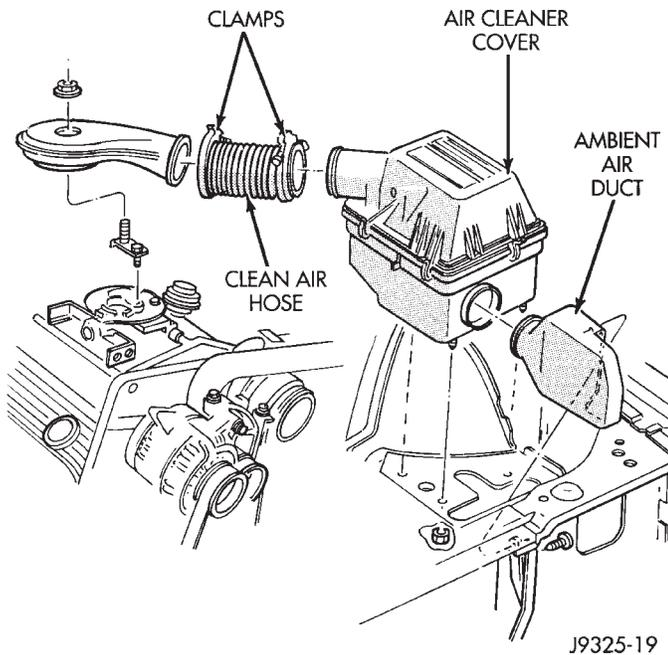
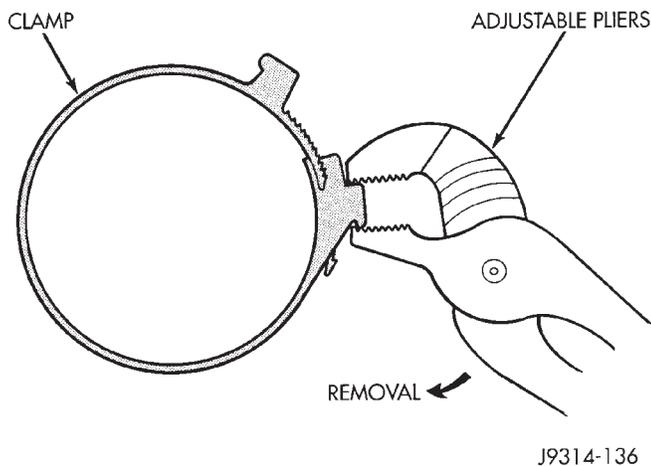

Fig. 83 Air Cleaner—5.2L V-8 Engine Shown
Fig. 84 Clamp Removal
- (1) Unlock clean air hose clamp (Fig. 83) at air cleaner cover. To unlock the clamp, attach adjustable pliers to clamp and rotate pliers as shown in (Fig. 84). Remove clean air hose at cover.
- (2) Remove crankcase breather/filter hose at air cleaner cover.
- (3) From under vehicle, remove three housing nuts (Fig. 83).
- (4) Release the air cleaner housing from the ambient air duct and remove housing from vehicle.
- (1) Position air cleaner housing to body and ambient air duct (Fig. 83).
- (2) Install three nuts and tighten to 10 N·m (93 in. lbs.) torque.